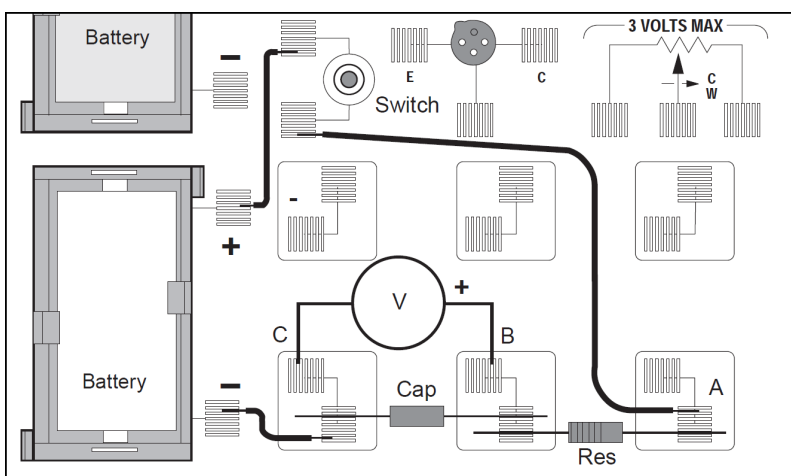

Figure 8.1
1. Connect the circuit shown in Figure 8.1, using a 100 $\text{k}\Omega$ resistor and a 100 μF capacitor. Connect the electrometer or multimeter so the black "ground" lead is on the side of the capacitor that connects to the negative terminal of the battery and set it so that it reads a maximum of about 1.5-3 V DC.
2. Start with no voltage on the capacitor and the switch off. If there is any remaining voltage on the capacitor, use a piece of wire to "short" the two leads together, draining any remaining charge. (Touch the ends of the wire to points **B** and **C** as shown in Figure 8.1 to discharge the capacitor.)